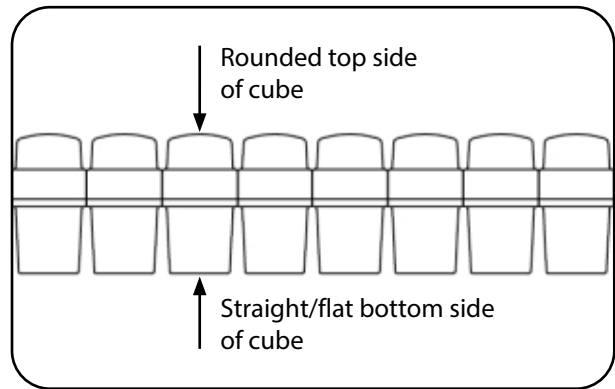

Fig. 6.1.01 – Foam cubes
- Make sure that the rounded top sides of the cubes are pointing upwards and the straight/flat sides of the cubes are facing down (Fig. 6.1.01).